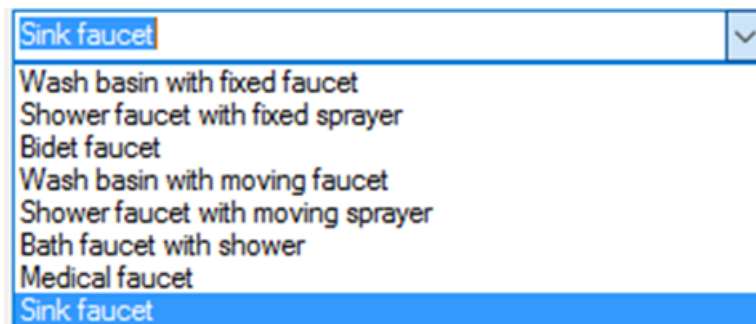

Fig. 54. Draw-off faucets defined by default
**Name** - item name taken from the type library or input by the user to define a new item type. A few new draw-off faucet types and their standard drawing symbols are set by default (Fig. 54).